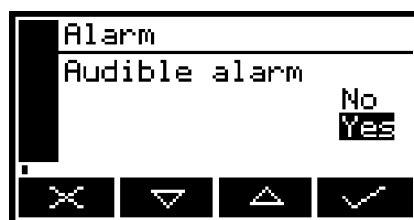

Figure 30 - The Audible alarm option screen
2. If the displayed alarm setting is not the required setting, press the  soft key. The Audible alarm option screen will then be displayed: see Figure 30.